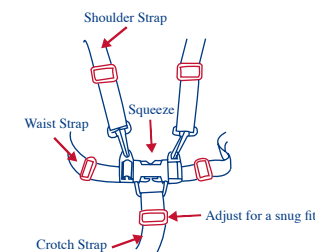

Fig. 18a
- Carefully place the child in the stroller seat and bring the safety harness around the child's waist and over the shoulders. Place the crotch strap between the child's legs. Insert the male end of each shoulder/waist belt into the buckle on the crotch strap. Tighten the harness to be snug around the child's waist and over the child's shoulders. Please see figure 18a.